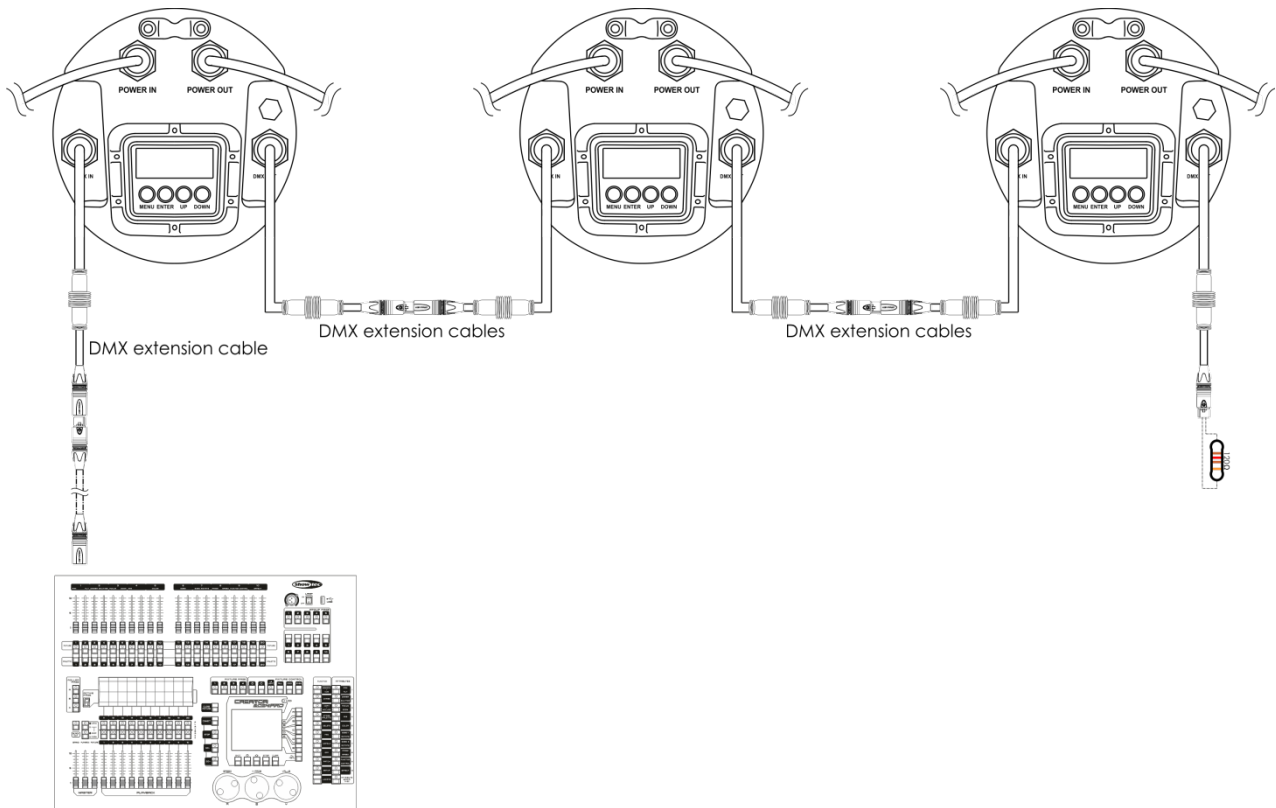

Fig. 04
- 04) Link the units as shown in fig. 04. Connect a light controller to the first unit's DMX "in" socket, using a DMX extension cable. Connect the first unit's "out" socket with the second unit's "in" socket, using the included DMX extension cables, Link the second, third, and fourth units.